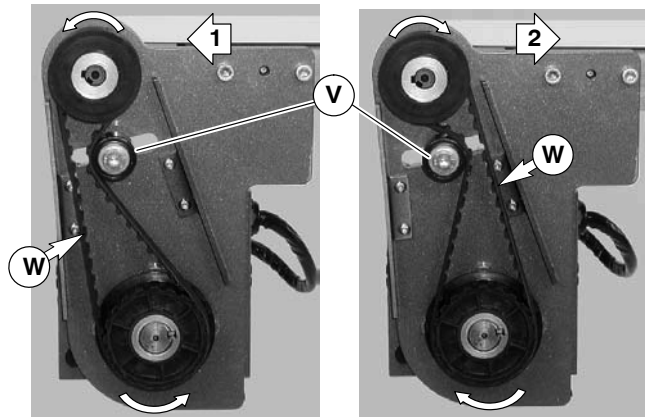

Figure 13
8. Depending on direction of conveyor belt travel (1 or 2 of Figure 13), position belt tensioner (V) as shown. Tension belt to obtain 0.125" (3 mm) deflection for 1.0 lb (456 grams) of force at belt mid-point (W). Tighten tensioner screw to 103 in-lb (12 Nm).
3. Depending on direction of conveyor belt travel (1 or 2 of Figure 13), position belt tensioner (V) as shown. Tension belt to obtain 0.125" (3 mm) deflection for 1.0 lb (456 grams) of force at belt mid-point (W). Tighten tensioner screw to 103 in-lb (12 Nm).
5. Depending on direction of conveyor belt travel (1 or 2 of Figure 13), position belt tensioner (V) as shown. Tension belt to obtain 0.125" (3 mm) deflection for 1.0 lb (456 grams) of force at belt mid-point (W). Tighten tensioner screw to 103 in-lb (12 Nm).